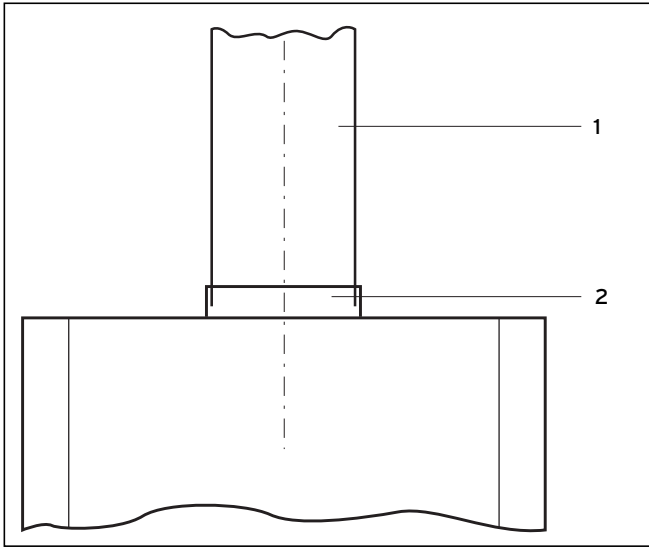

Fig. 5.1 Flue connection
- Fit the flue pipe (1) in the flue pipe connection (2) on the flow cutout, see fig. 5.1.